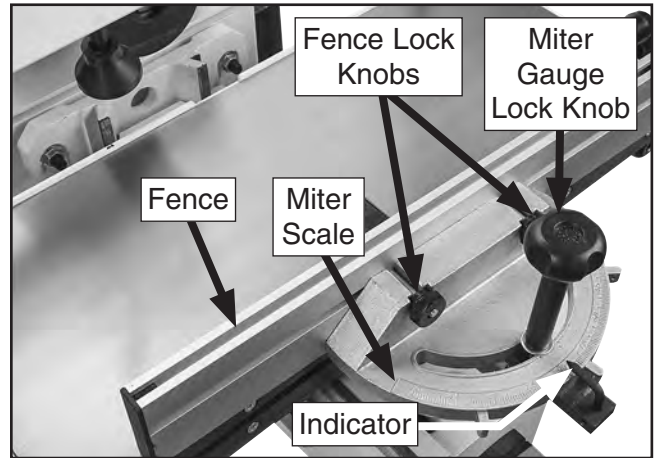

Figure 21. Fence and miter gauge components.
The Model G0846 features an adjustable fence with miter gauge that pivots up to 60° left or right for angled boring operations (see **Figure 21**).
1. Loosen lock knob (see **Figure 21**), adjust fence to desired angle shown on miter scale, then tighten lock knob to secure setting.
1. Loosen fence lock knobs (see **Figure 21**) and shift fence as needed to support workpiece.
1. Remove lock knob and flat washer, then lift fence and miter gauge as assembly off table (see **Figure 21** on **Page 23**).